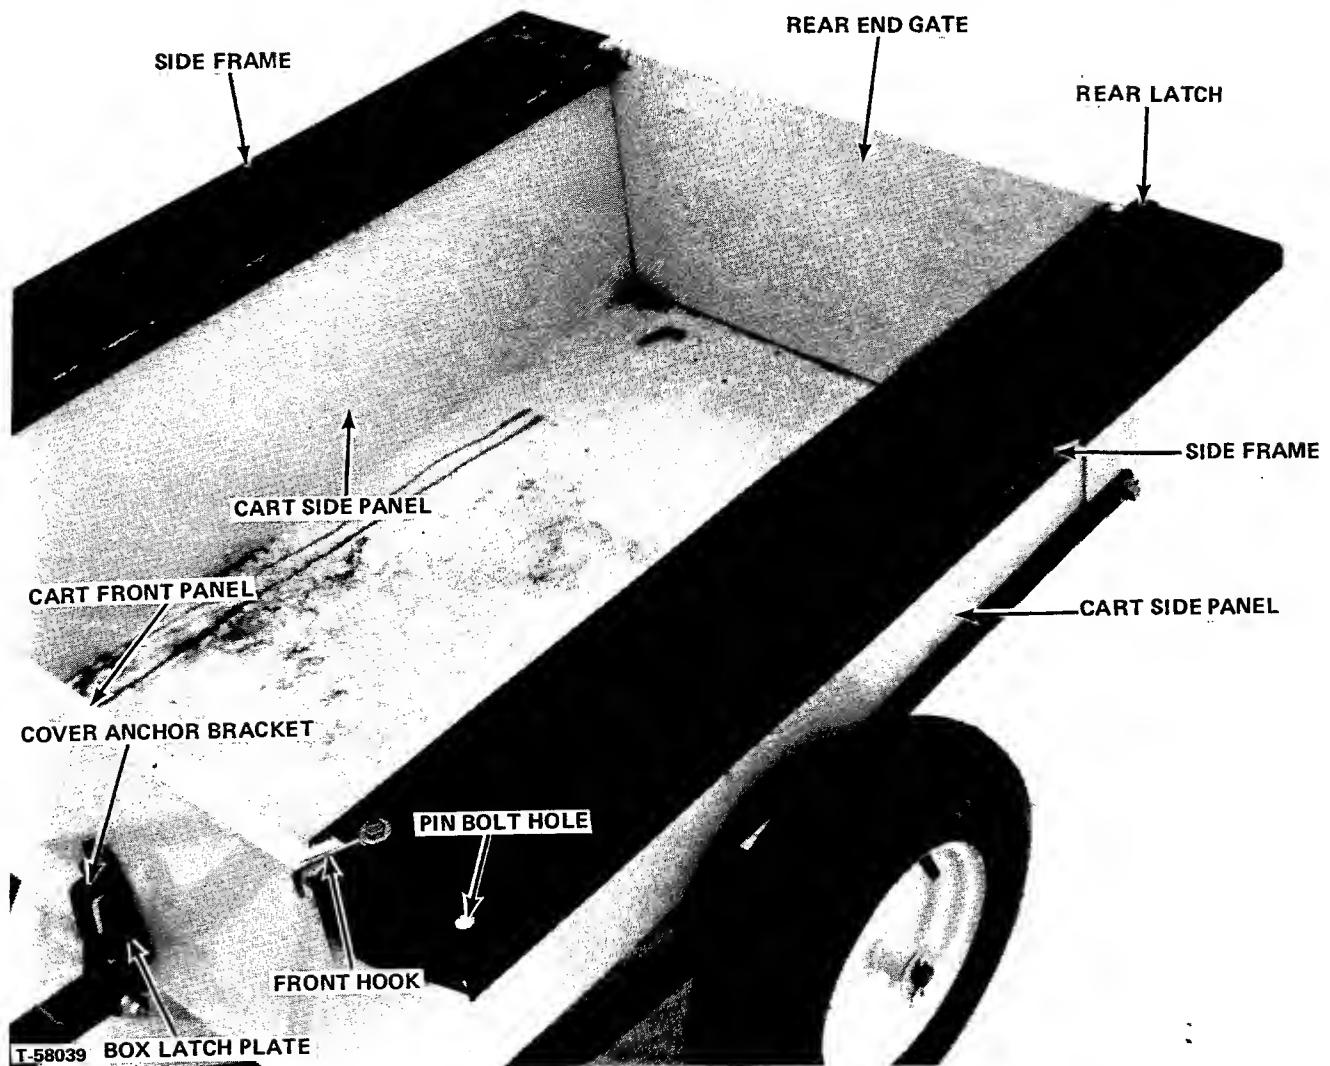

FIGURE 14
1. (See Figure 14). Remove rear end gate from cart. (NOTE: Item numbers used below refer to "Item Reference Number" in Figure 15.)
2. (See Figures 14 and 15). Starting at rear of cart align the folded lip edge "A" of Item 16, side frame, with the inner vertical leg of the top edge of the cart side panels. Slide the side frame forward interlocking the vertical leg of the cart side panel top inside the folded edge "A" of the side frame. Slide side frame fully forward until it touches the cart front panel. Install the other side frame in same manner on the other cart side panel.
3. Install Item 23, front hook, with Item 20, two of item 19, items 18 and 21 in the front inner corner
4. Install item 17, rear latch with item 20, two of item 18 and items 19 and 21 as shown in Figures 14 and 15. Reinstall the rear end gate. Tighten locknut, 21, on rear latch capscrews, 20, just tight enough that latches can be turned to overlap the top corners of the end gate and hold it in place, but can be turned away by hand for end gate removal.
5. Remove the top capscrew holding the box latch plate to the cart front panel and install the cover anchor bracket, item 15, using longer capscrew, item 22. (Figures 14 and 15)